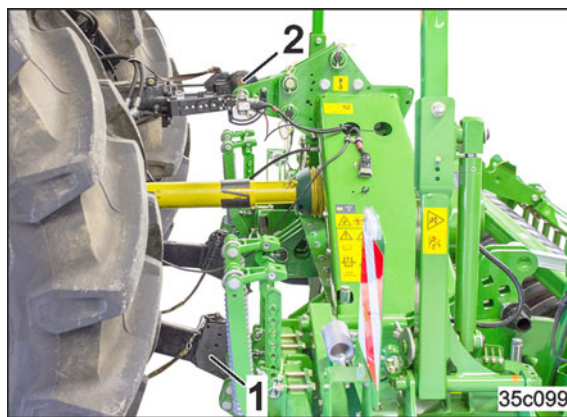

Fig. 86
14. Engage the lower hinging points (Fig. 86/1) of the implement using the tractor lower links. The lower link hooks lock automatically.
15. Fasten the tractor top link (Fig. 86/2) to the implement. The upper link hook locks automatically.